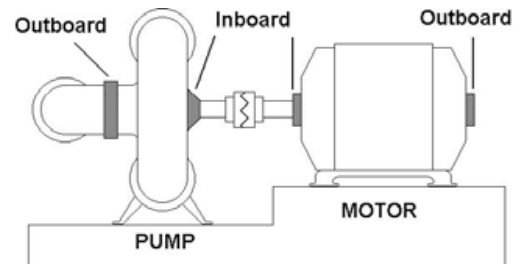

Figure 1
Refer to the motor-pump unit drawing (figure 1) as an example. There are four bearing positions, two on the pump and two on the motor. The inboard pump bearing serves the function of taking up axial thrust as well as radial force. In this case the optimum number of sensors would be five (5): a sensor in the horizontal position at each of the four (4) bearings and one (1) in the axial direction at the inboard pump bearing.